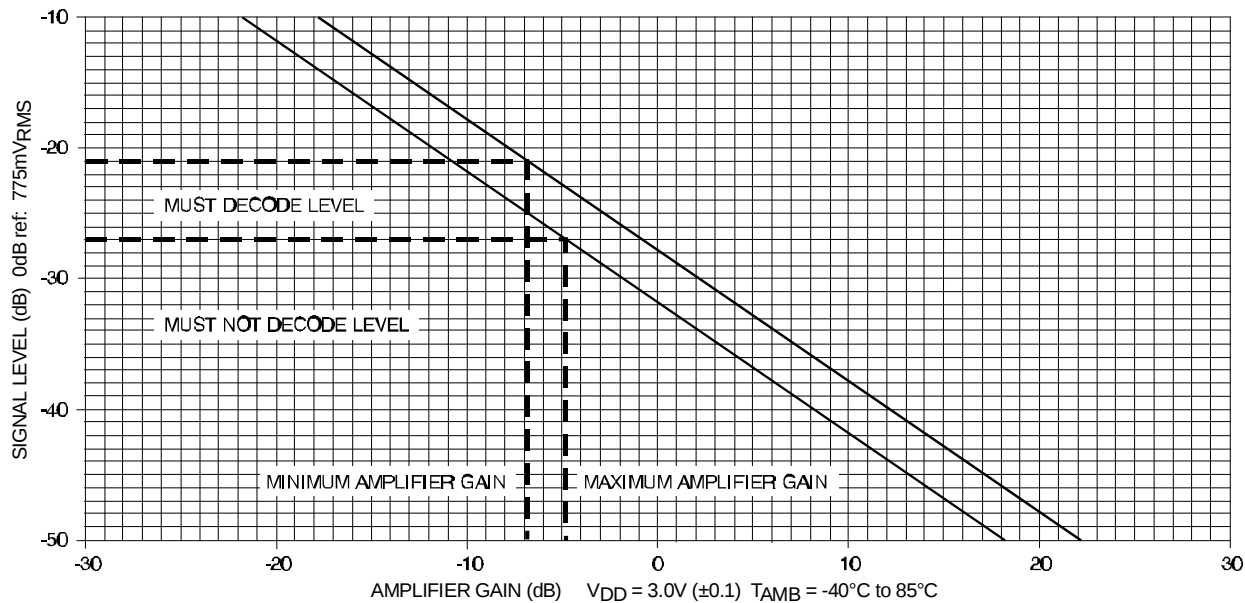
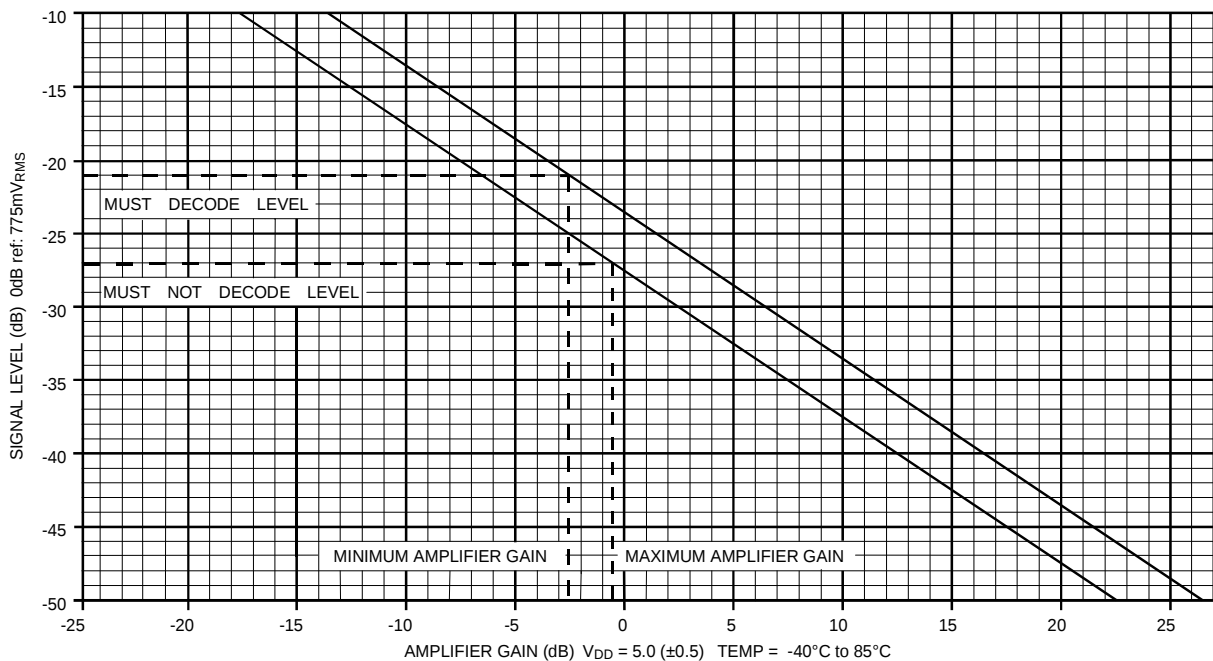

Figure 4: Input Gain Calculation Graph for $V_{DD} = 3.0V$
Figure 5: Input Gain Calculation Graph for $V_{DD} = 5.0V$
With reference to the graphs in Figure 4 and Figure 5, the following steps will assist in the determination of the required gain/attenuation.
1. Draw two horizontal lines from the Y-axis [Signal Level (dB)] in Figure 4 and Figure 5. The upper line represents the required 'Must' decode level. The lower line represents the required 'Must-Not' decode level.
Component tolerances should not move the gain-figure outside these limits. The graphs Figure 4 and Figure 5 are for the calculation of input gain components for a CMX631A using a V_{DD} of 3.0 (± 0.1) or V_{DD} of 5.0 (± 0.5).